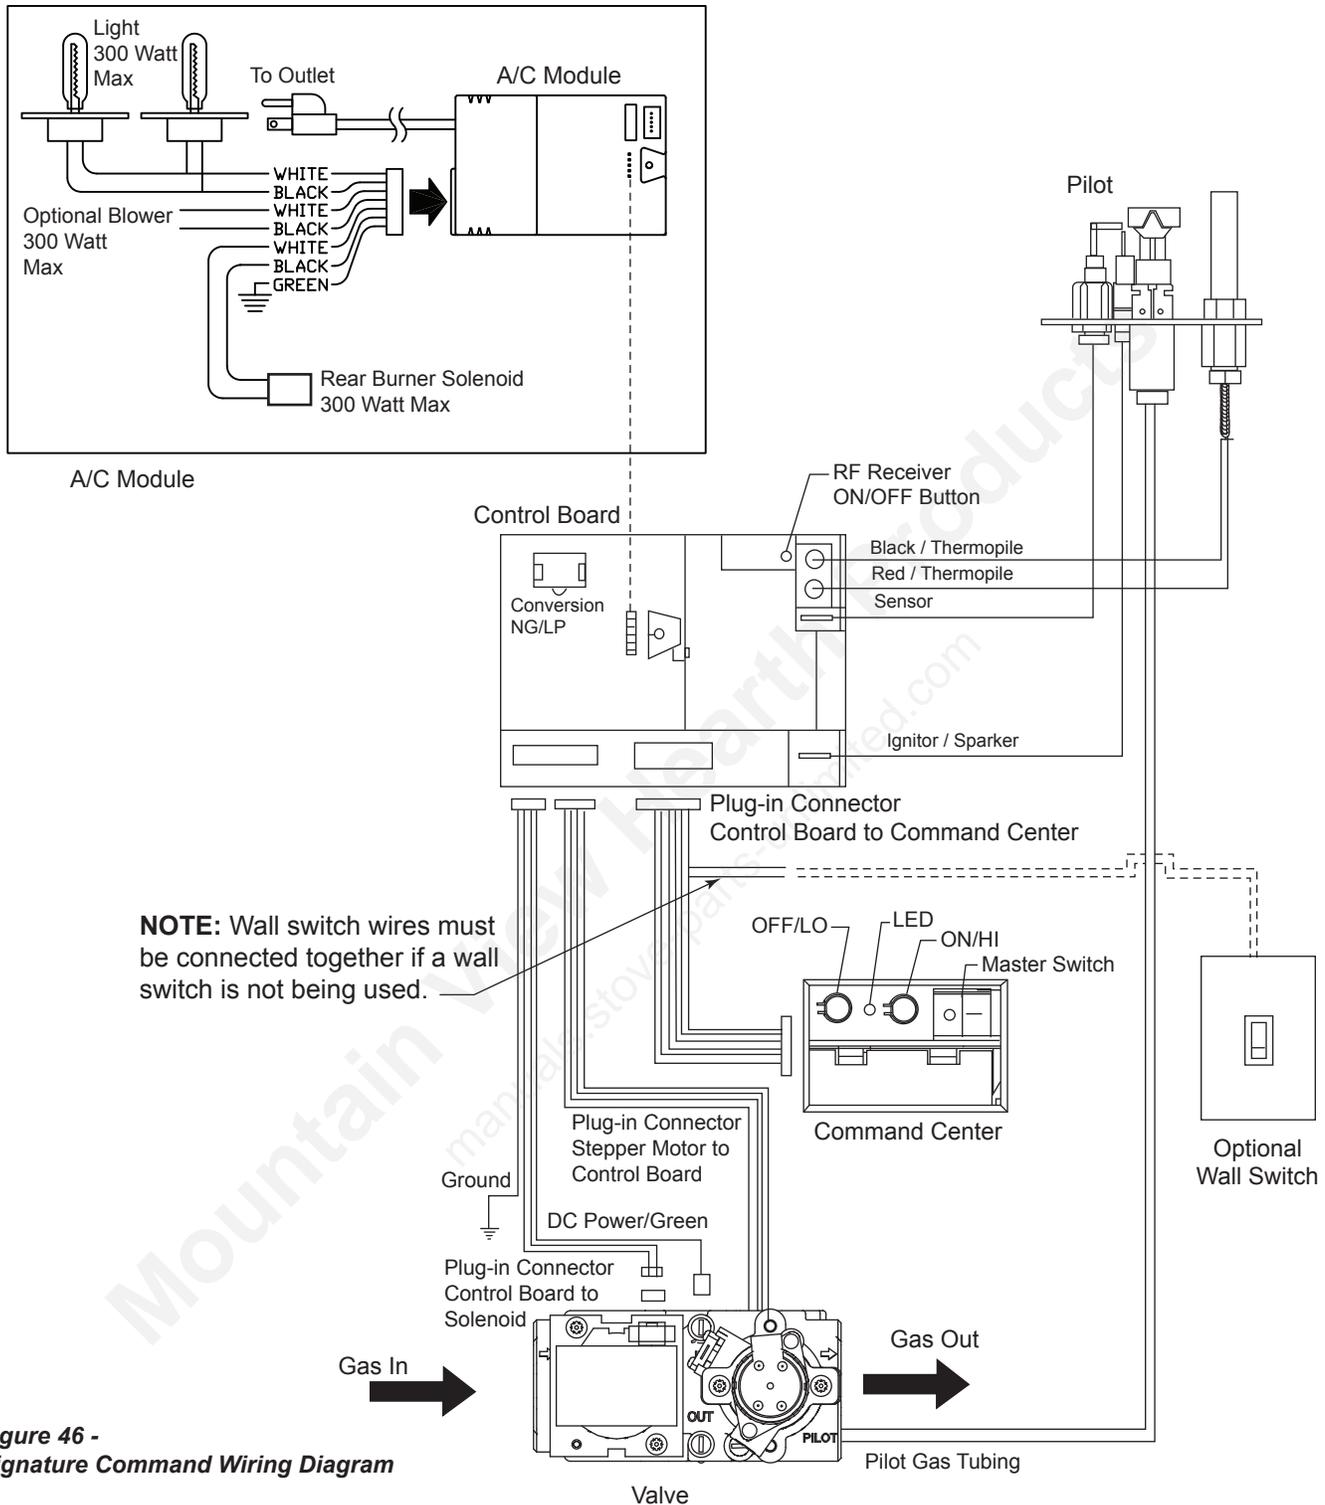

Figure 46 - Signature Command Wiring Diagram
The wall switch wire connection is located off the 2 ft. wire harness from the control box to the command center. *Figure 46*. The connection is labeled “Wall Switch”. Unplug the male and female connectors and connect the two (2) low voltage wires provided. Run wire to desired location on wall. Up to 50 ft. of 18 ga. wire may be used if necessary. Attach wires to wall switch. Mount the wall switch in to junction box and screw on cover.